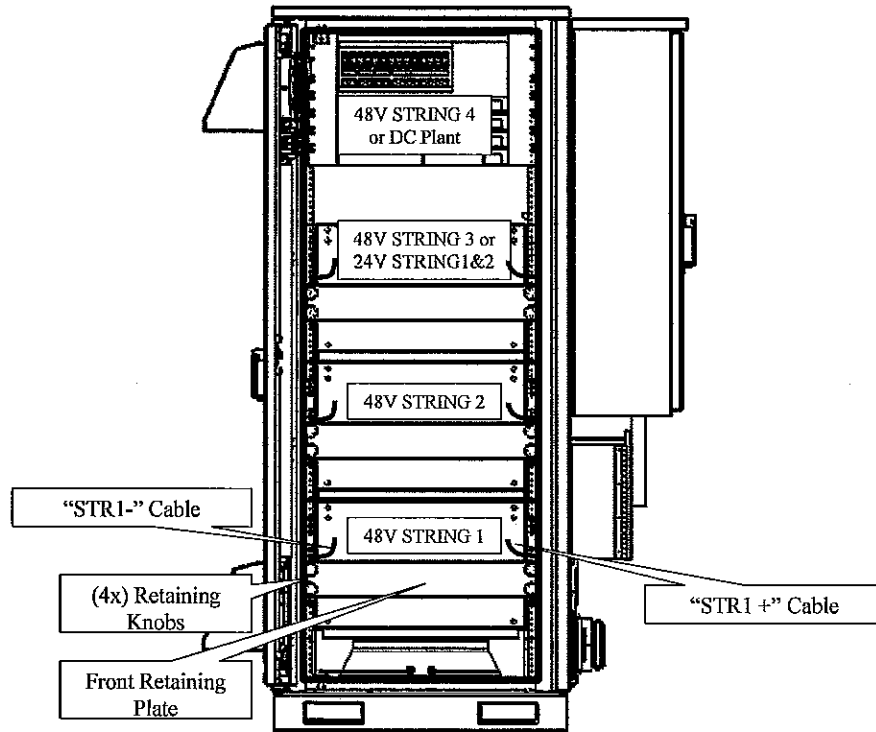

Figure 6. Battery Installation Layout.
1. Open the front door of the cabinet after it has been securely mounted in place. Locate the battery trays (up to 4, String 1 on the bottom, String 2 above String 1, etc.). See Figure 6.
4. Remove the front retaining plates for each tray where batteries are to be installed by unscrewing the (4) knobs holding them in place. Retain the plate & knob for reinstall.
7. The battery connection cables come pre-crimped with a 1-hole lug to connect to the (-) terminal of the left-most battery and (+) terminal of the right-most battery for each string (See Figure 6). For safety, they have insulating heat-shrink over the metal lugs. For each string of batteries to be installed ONLY, strip off the insulation covering the metallic lug on the battery cables.
9. Next, connect the "STR1 -" cable to the (-) terminal of the left battery. (See Figure 6).